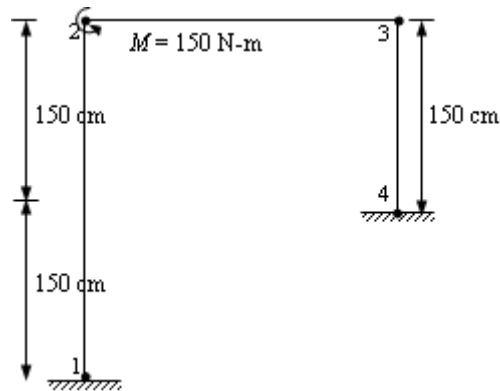

Figure 3:
6. Analyze the rigid frame shown in Figure 3 and find shear force and bending moment for the individual member. Each joint is a rigid joint where members are connected. [16]